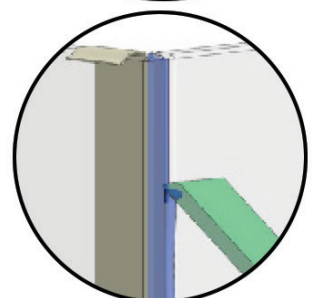

FIG 23.
- Spray channels and glass with slightly soapy water then use spatula provided to clean off excess silicone (**FIG 23**). Repeat this process 3 times. Use minimal water then wipe off with paper towels. Tough Wipes or Baby Wipes are also good to use for this.